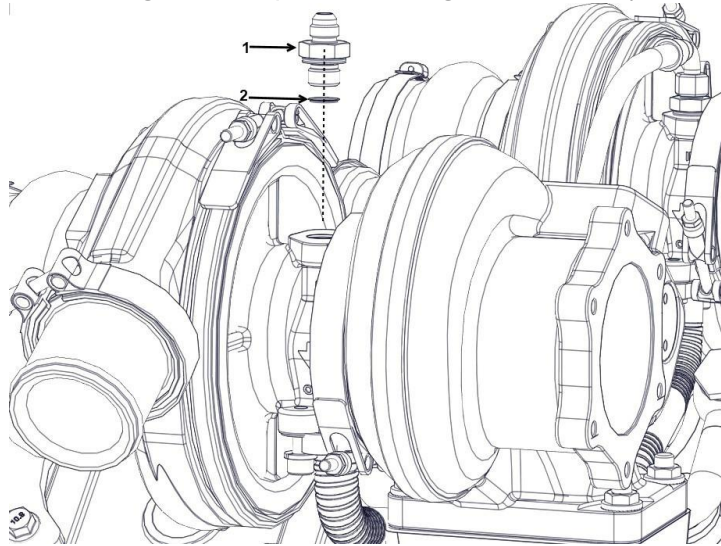

Figure 25. Oil inlet Assembly
8. Place both washers into oil inlet. (Refer to Figure 25.)
9. Insert both oil inlet fittings and torque both fittings to 21 ft/lbs. (Refer to Figure 25.)